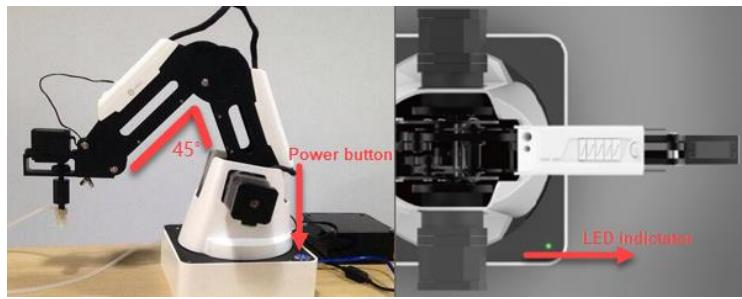

Figure 2.13 The gesture of Dobot Magician before power-on
- Power on:** align the Dobot Magician into its neutral position with its Forearm and Rear Arm constructing a 45-degree angle, and press down the power button in the base, as shown in Figure 2.13. Once the robotic arm is powered on, the LED indicator turns yellow, and all the stepper motors lock. And then wait about seven seconds, a short beep sound will be heard, and the LED indicator turns from yellow to green. Now the Dobot Magician is ready to use.